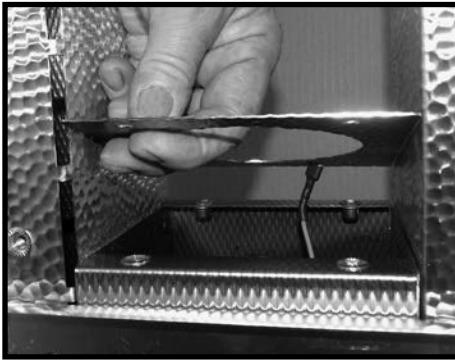

Figure 22: Removing burner cover plate.
6. Remove the burner cover plate (Figure 22).